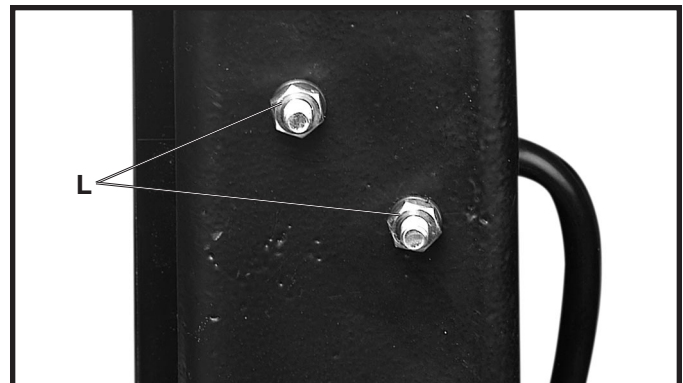

Fig. 36
3. Use the two nuts and lockwashers (L) Fig. 36, removed in **STEP 1**, to fasten the switch box to the bandsaw arm.